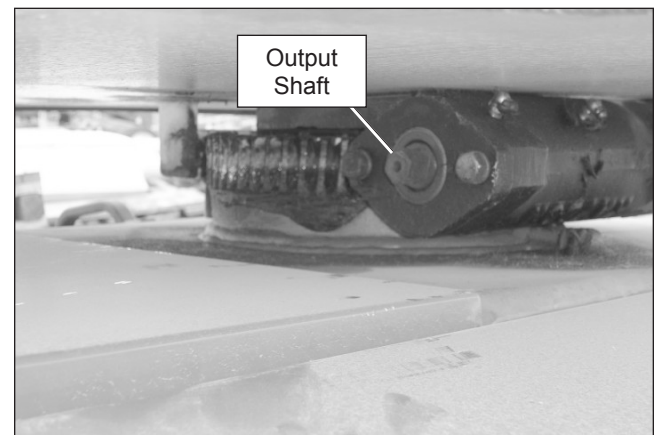

Figure 11.2 – Rotation Worm Drive
1. Connect a 7/8" socket and ratchet to the rotation worm drive output shaft (refer to Figure 11.2).